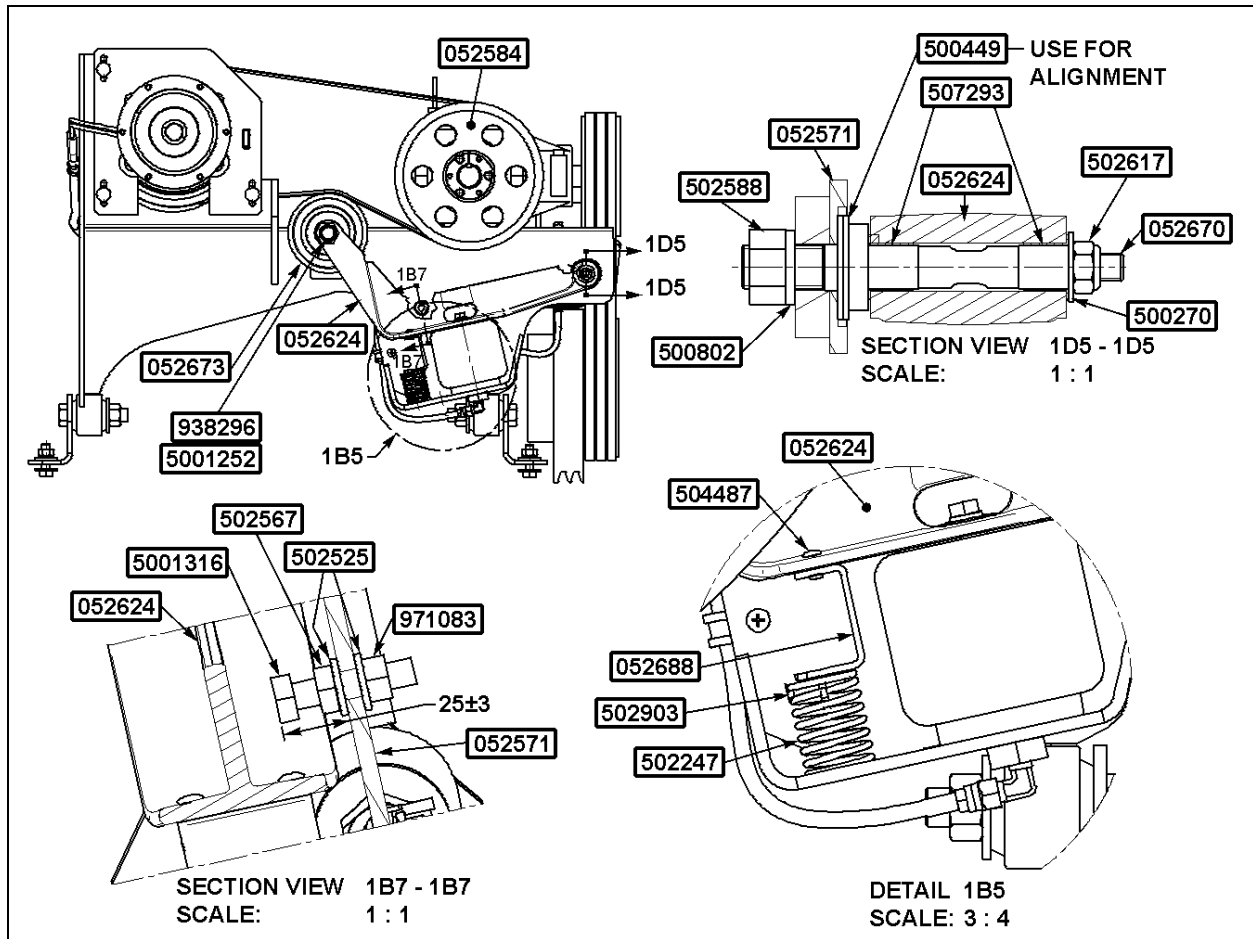

FIGURE 11
19. Install compression spring (502247) between mounting base and belt tensioner arm. Secure compression spring onto its attachment using the thread cutting screw (502903) (Refer to figure 11).
20. Install stop screw (5001316) onto the mounting base and secure it using the hexagonal nut (502567) and Stover nut (971083), insert a flat washer (502525) on each side of the mounting base. Adjust stop screw position as per indications in figure 11.